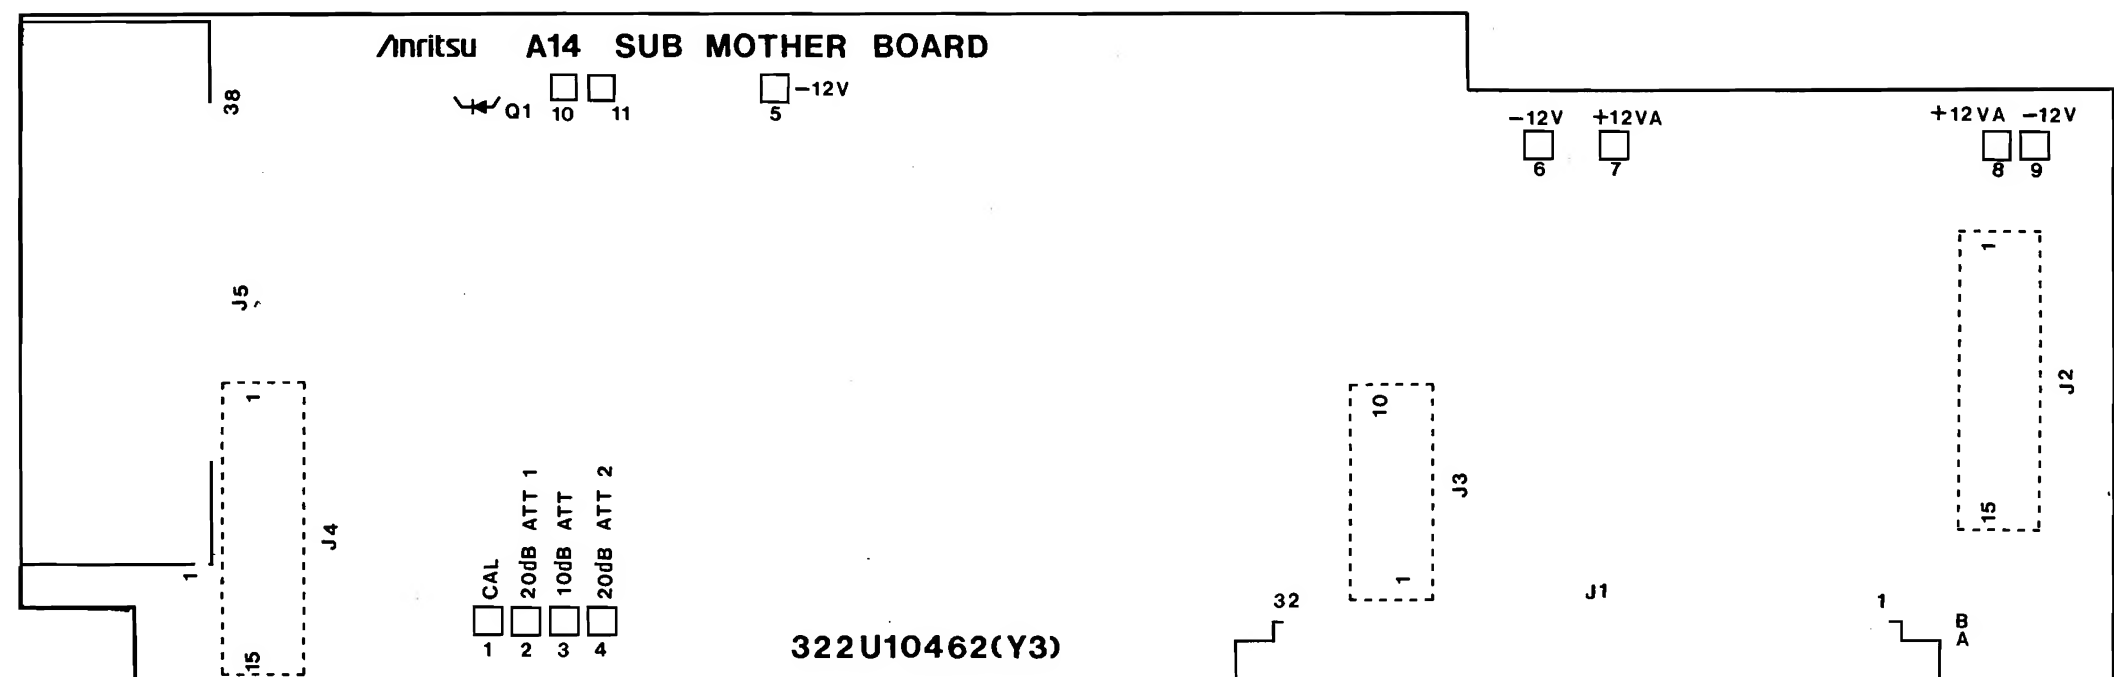

Fig. 3-61 A14 SUB MOTHERBOARD
2. A14 SUB MOTHERBOARD (Fig. 3-61 , **25**)